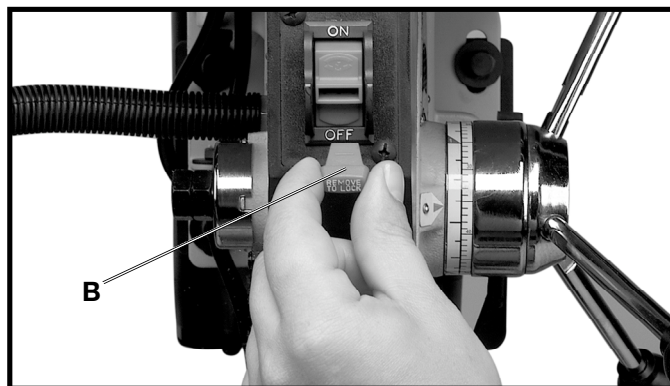

Fig. 19
**IMPORTANT:** When the machine is not in use, the switch should be locked in the “**OFF**” position to prevent unauthorized use. This can be done by grasping the switch toggle (B) and pulling it out of the switch, as shown in Fig. 19. With the switch toggle (B) removed, the switch will not operate. However, should the switch toggle be removed while the drill press is operating, the switch can be turned “**OFF**” once, but cannot be restarted without inserting the switch toggle (B).